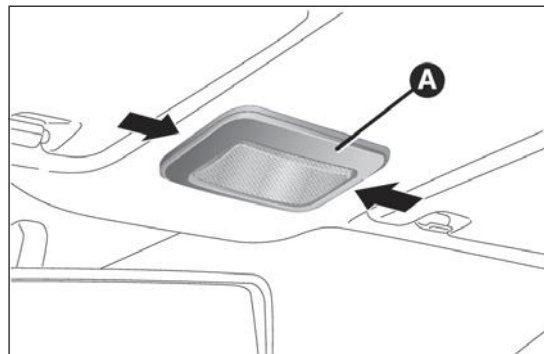
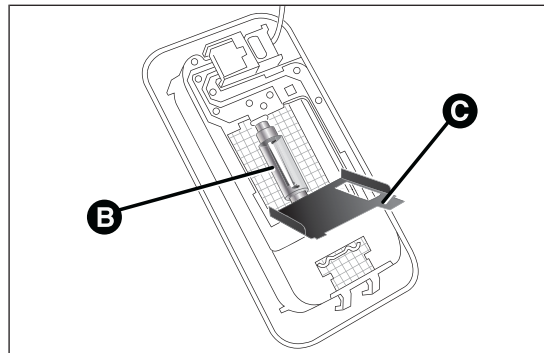

fig. 141
fig. 142
- ☐ operate in the point shown by the arrow and remove the roof light A fig. 141;
- ☐ open the flap C fig. 142 and replace the bulb B releasing it from the side contacts;
- ☐ Insert the new bulb B fig. 142 and make sure that it is correctly clamped between the contacts;
- ☐ reclose the flap C fig. 142 and fix the roof light A fig. 141 in its housing making sure that it is locked.